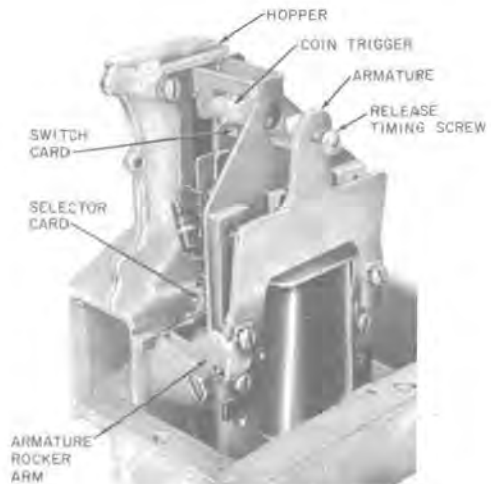

Fig. 15—P-10E683 Mechanism Unit With P-13E961 Coin Relay
- Manual or dial prepay single-coil coin relay (Fig. 15).
2.35 Most 230-, 233-, and 234-type coin collectors are equipped with a P-13E961 coin relay (Fig. 15) which replaces the P-10E786 coin relay now rated MD. The relays are interchangeable, but most of the components are not.